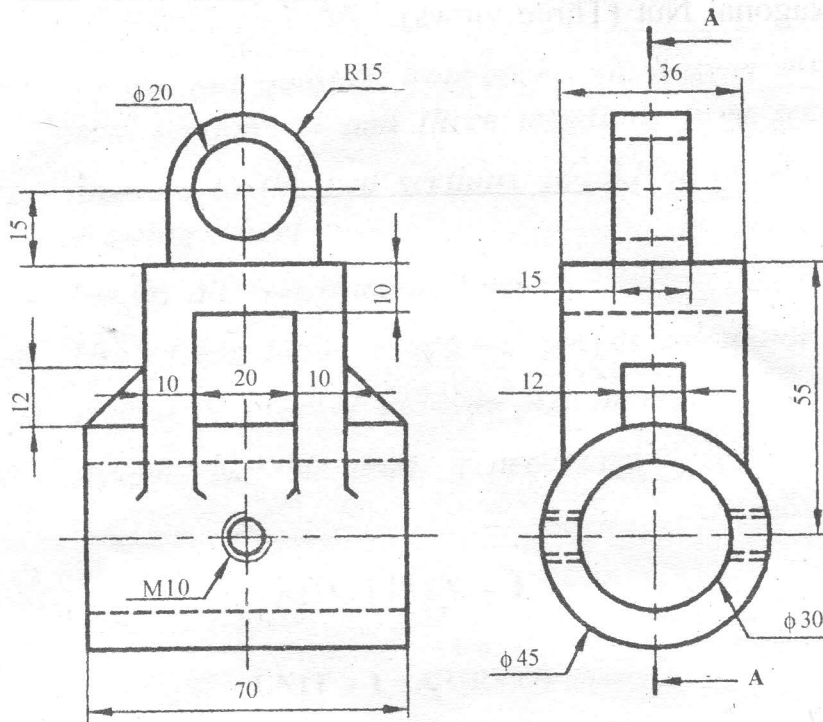

Fig. 10
Q.10) Fig. 10 shows elevation and left hand side view of an object draw the following views :